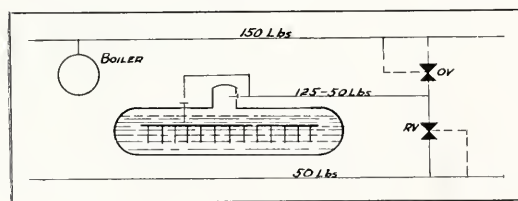

Fig. 2.
it is about 90 per cent filled. An overflow valve (OV), figure 2, on the high pressure line, opens when the pressure tends to rise, thereby letting the steam pass into the accumulator. The steam enters the accumulator through a non-return valve and is charged into the water through a group of nozzles. In changing from steam to water, the latent heat of the steam is given off; this tends to keep the water at the saturation temperature of the entering steam.